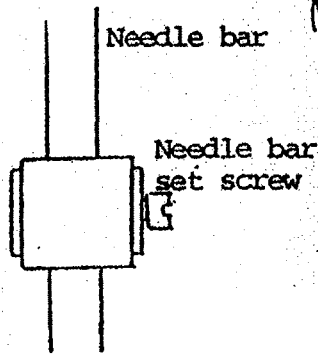

Fig. 14
2. Now set the hook so that the end of the hook gib is 0.5mm to the right of the needle "L". (See Fig. 14)